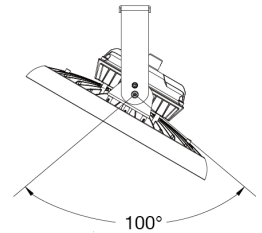

Fig. 7
4. After installation, connect the wire of the fixture to the mains according to local code. Ensure the connections are stable. By adjusting the bracket's screws, users can adjust 50° to the left or right vertically. (Fig. 7)